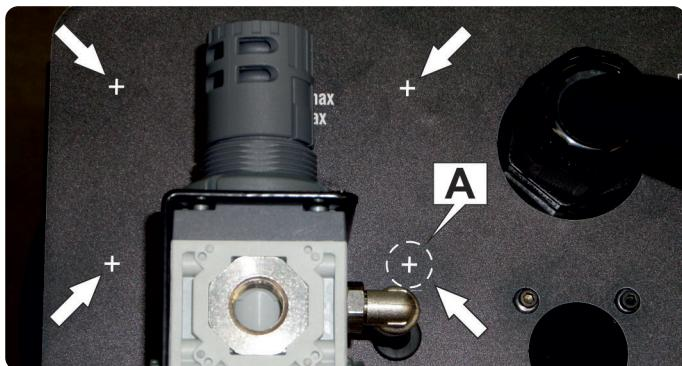

Fig. 1
- ◆ Locate four cross-shaped drawings on the plate on the rear panel of the machine (fig.1) and make a through hole in each of them with an awl or a pointed tool with a diameter of 4 mm. Around hole A (indicated in fig.1) eliminate a portion of the film plate with a diameter of approximately 10 mm